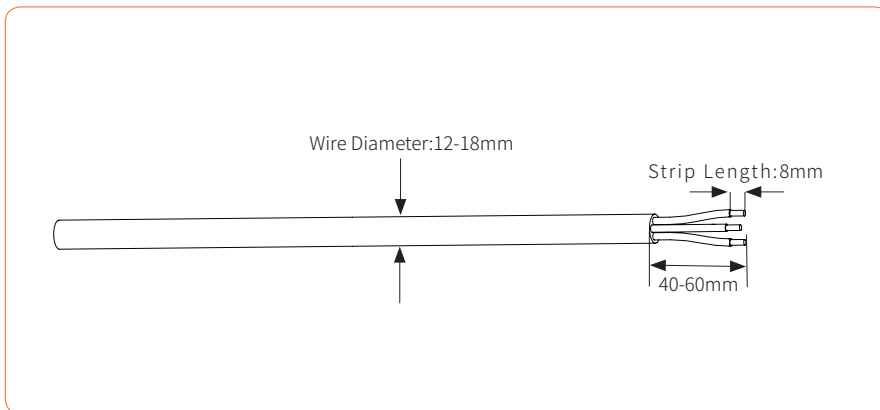

Figure 4-27
① According to the table above, select an appropriate AC cable, peel off the insulation sleeve of AC cable for 40~60mm, and peel off the sleeve in the conductor core of L/PE/N wires for 8mm, as shown in Figure 4-27: